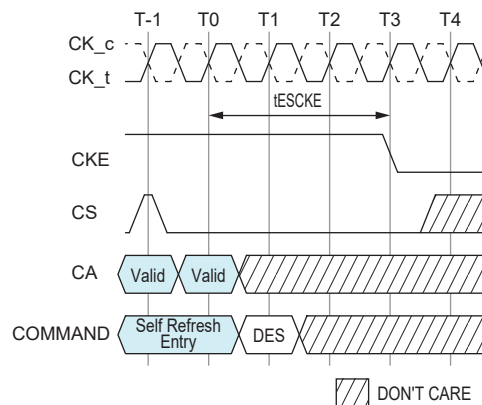

Figure 4.59 — tESCKE Timing
1. Delay time has to satisfy both analog time(ns) and clock count(tCK). It means that tESCKE will not expire until CK has toggled through at least 3 full cycles (3 *tCK) and 1.75ns has transpired. The case which 3tCK is applied to is shown in Figure 4.59.